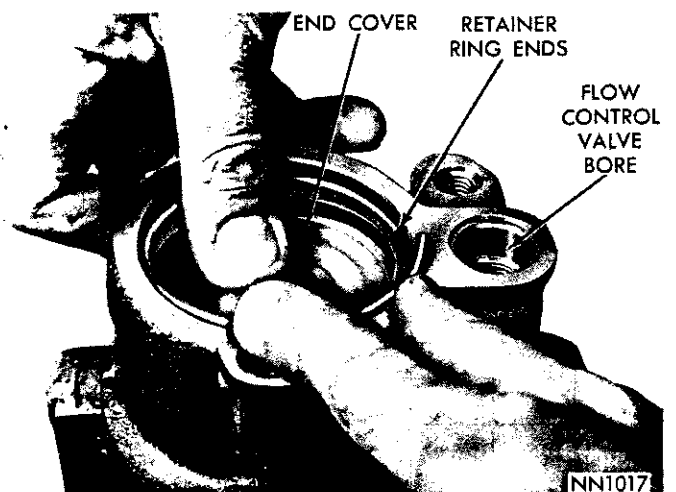
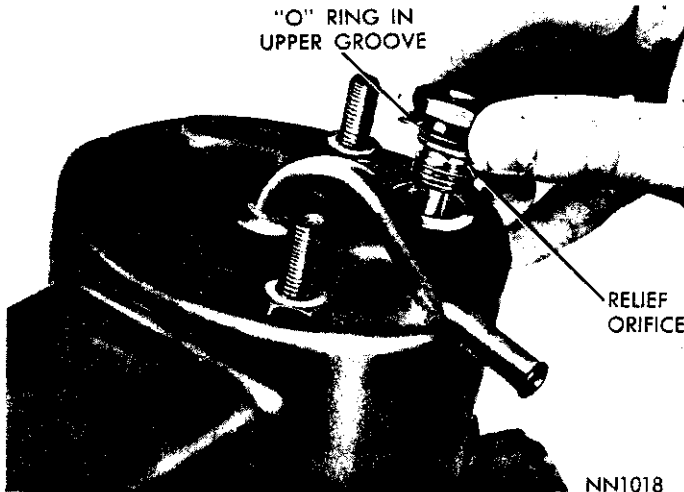

Fig. 18—Installing End Cover Plate and Retainer Ring
Fig. 19—Installing Pressure Hose Fitting
(10) Place spring in groove in pressure plate and position end cover lip edge UP over spring.
(11) Press end cover down below retaining ring groove with thumb and install ring making sure it is seated in groove (Fig. 18).
(12) Using a punch, tap retainer ring ends around in the groove until opening is opposite flow control valve bore. This is important for maximum retention of the retainer ring (Fig. 18).
(13) Replace reservoir "O" ring seal, two mounting stud "O" ring seals and flow control valve "O" ring seal on pump body, lubricate with power steering fluid and carefully position reservoir on pump body. Visually align the mounting stud holes till studs can be started in threads.
(14) Using a plastic hammer, tap reservoir down on pump and insert flow control valve spring and valve (slotted end up).
(15) Replace "O" ring on pressure hose fitting and lubricate with power steering fluid (Fig. 19).